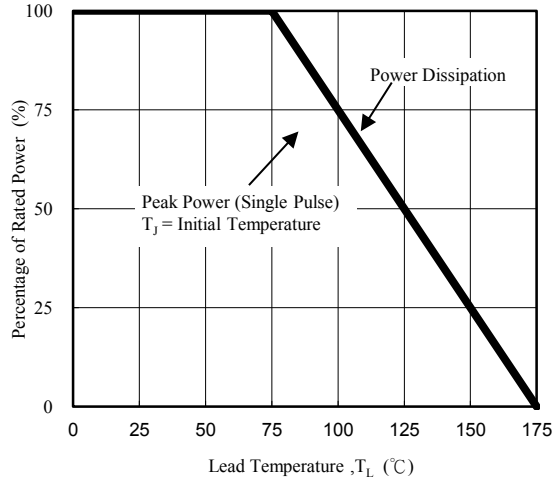

Fig. 2 - Power Derating Curve
(1)Non-repetitive current pulse per Fig.3 and derated above  $T_A=25^\circ\text{C}$  per Fig.2